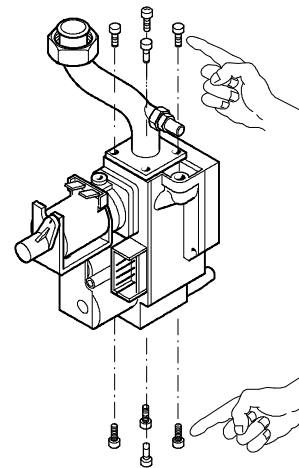

fig. 61
- 4 Unscrew the eight screws indicated in fig. 61 and remove the valve.